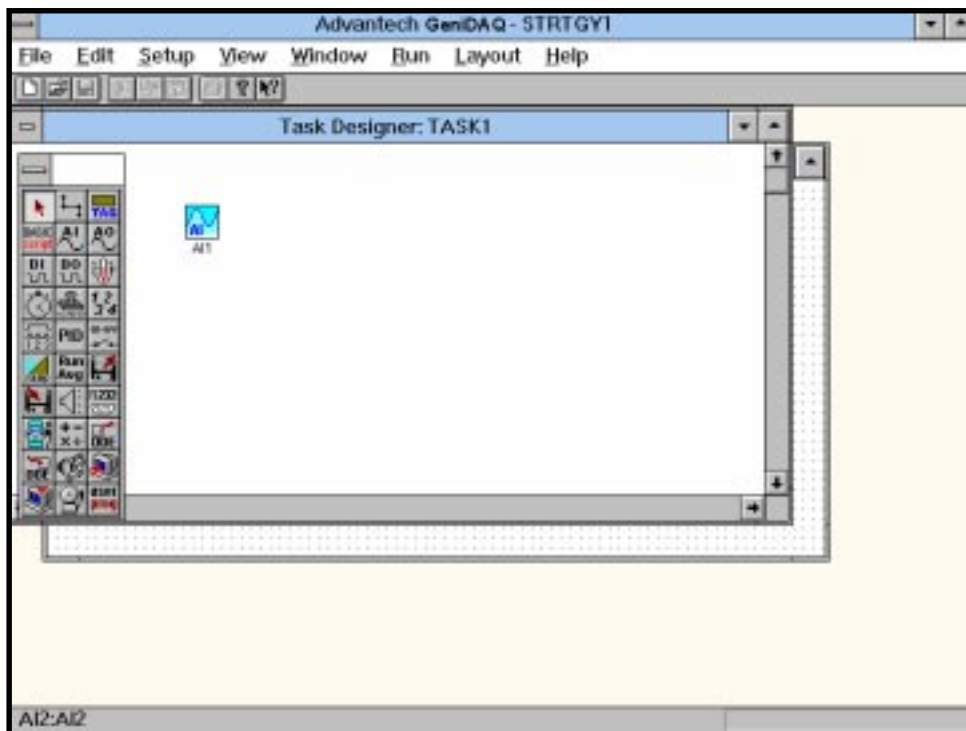

Figure 3-3 Add an AI block
1. Invoke GeniDAQ by double clicking on the GeniDAQ Builder icon in the GeniDAQ workgroup. After double clicking, a blank window will be displayed on your screen. Click once on the File menu to pull down the menu, and choose New. After creating a new strategy file, two blank windows will pop up. One is TASK1 of Task Designer and another is DISP1 of Display Designer. The new TASK1 window will appear on the front of your screen and TASK block toolbox will be displayed on the left of TASK1 window. The window should look like Figure 3-3.